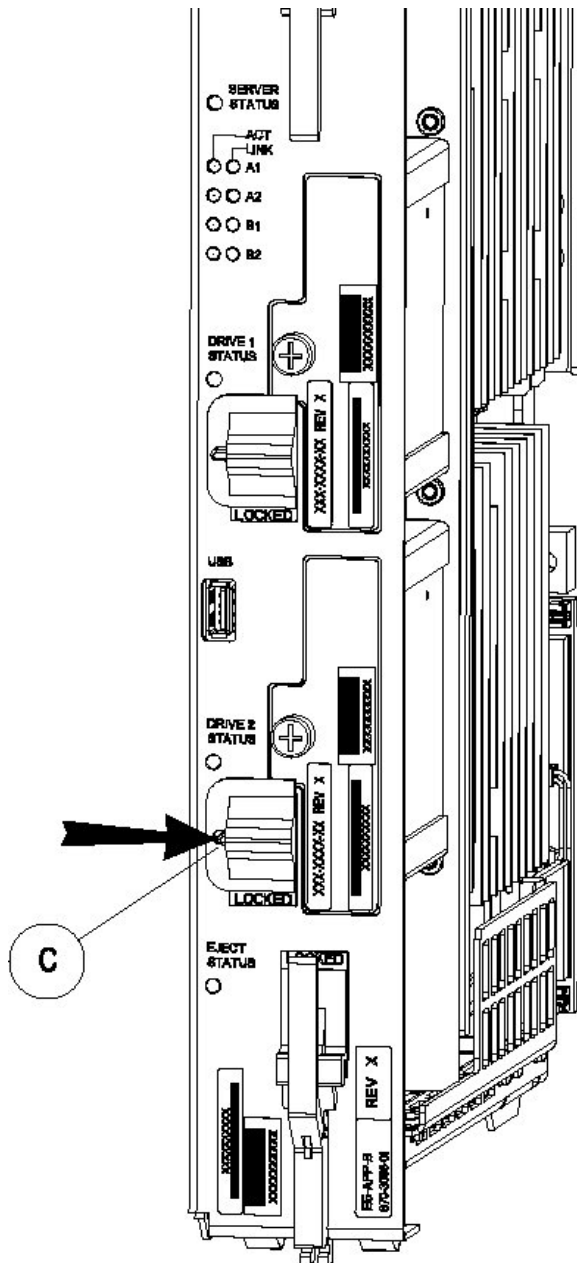

Figure 47: Drive Module Released
Move the switch lock release (C) to the "released" position by pressing in the direction indicated. Refer to Figure 47: Drive Module Released.